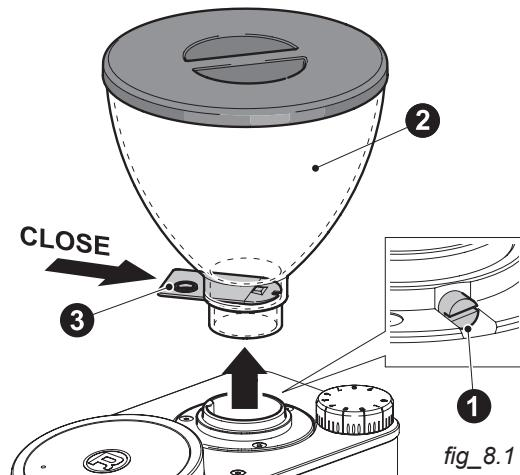

fig. 8.1
To clean the internal part of the machine, remove the safety screw on the left side (1 - fig. 8.1), and remove the hopper (2). Then, remove the three screws fastening the
Before removing the hopper with coffee beans inside, make sure to close the fan (3 - fig. 8.1) to prevent accidental leaks and grind the residual coffee inside the grinding chamber.